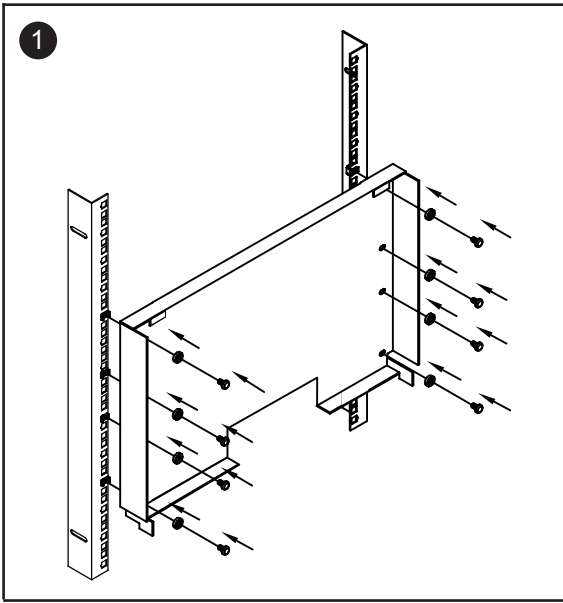

Figure 3.
■ Install each screw shown in **Figure 3**.